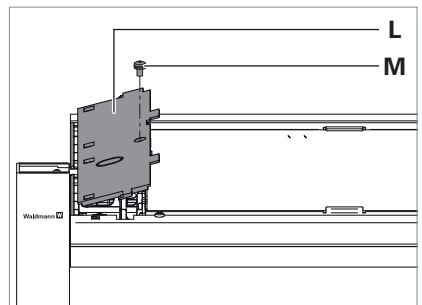

Fig. 7: Mounting the cover.
- ▶ Insert the cover **L** with the hooks on the bottom side of the cover into the eyelets on the luminaire head and press the cover firmly, see Fig. 7.